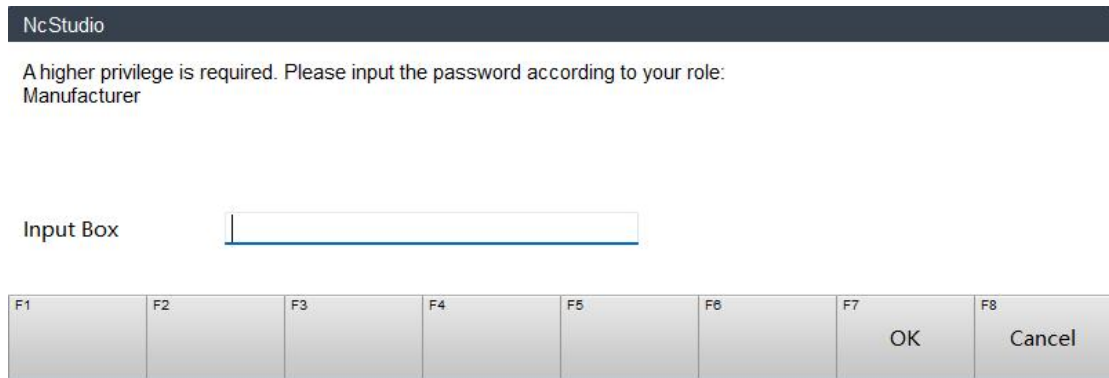

Figure 7.2.2 Enter a password
(2) A password input dialog box will pop up. As shown in Figure 7.2.2, enter the password "123456".